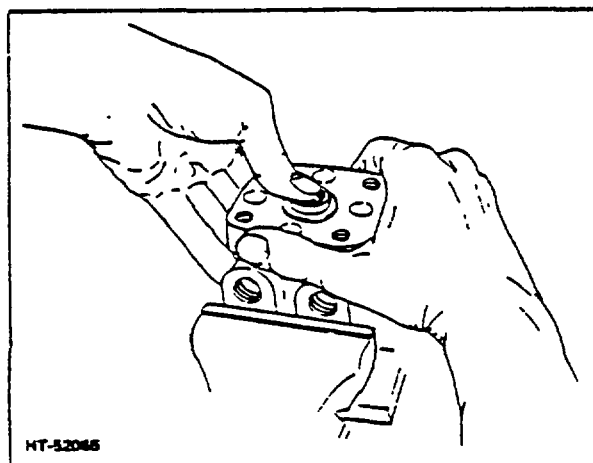

Figure 11. Removing End Cap
10. Hold the spool assembly down against the wooden block, and remove the end cap (Fig 11).